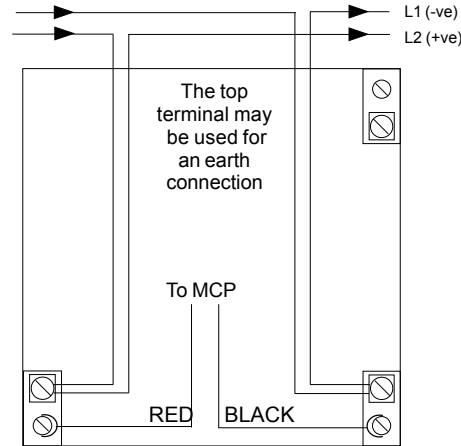

Fig 2 Surface Mount Connection Diagram
2. Run the cables from the Discovery loop into the box and connect them as shown in Fig 2. Ensure that earth continuity is maintained.
5. Undo the small front cover retaining screw and remove the call point front cover. Remove the 'NOT IN USE' insert. Connect all cables as shown in Fig. 2, secure the call point to the back-box and fit either the 'NOT IN USE' insert or the glass as required. Finally, replace the front cover.